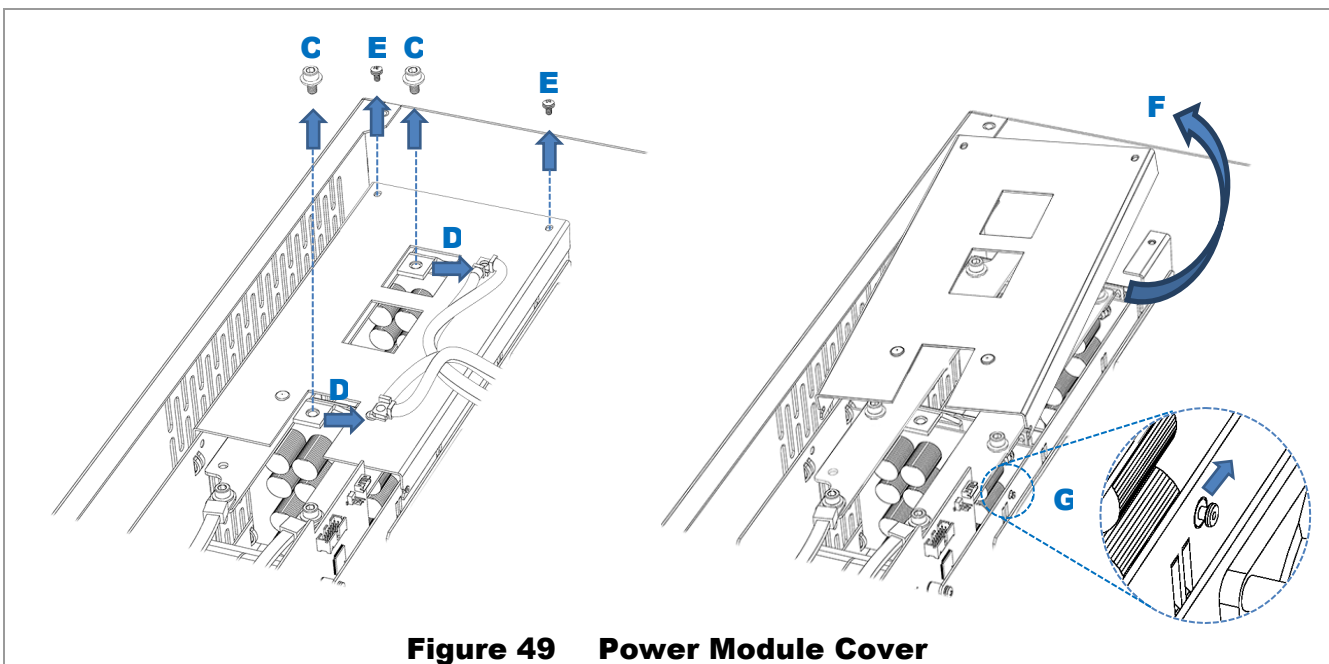

Figure 49 Power Module Cover
3. Using a 5 mm hex (Allen) wrench, remove bolts and washers for transformer cables. See **C** in Figure 49.
4. Remove transformer wires by bending them away from work area. See **D** in Figure 49. The voltage sense wires will be completely disconnected at this stage; set them aside.
5. Remove the cover for the power module cage. See Figure 49 for all items.
- Replace the cage cover by attaching the keyhole fastener **G** and lowering the cover into place **F**. Replace the cover screws **E**. See Figure 49 if necessary.
- Replace the transformer cables and hardware **C**. See Figure 49 if necessary. Ensure that the hardware is stacked in the following order.